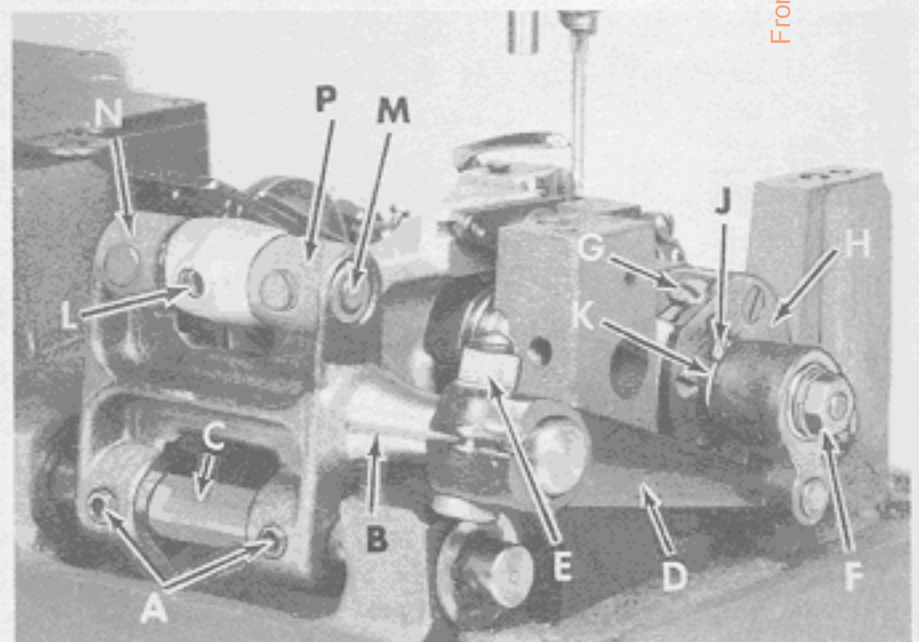

Fig. 13
Should it be necessary to move the feed dog to the left or right, loosen screws (A, Fig. 13) which hold the feed rocker (B) onto the feed rocker shaft (C), and move feed rocker to desired position and retighten screws. Make sure the feed rocker arm (D) does not bind after making this adjustment.
Should it be necessary to move the feed dog forward or backward, loosen nut (E, Fig. 13) which clamps the feed rocker arm to the feed rocker and move the feed rocker forward or backward as needed and retighten nut.
Set the stitch to required length. This is accomplished by loosening the locknut (F, Fig. 13) 1/2 turn (it has a left hand thread) on the end of the stitch regulating stud and turning the stitch adjusting screw (G) located under the left end of the cloth plate, in the head of the main shaft (H), which is marked with "L" and "S". Turning the screw clockwise shortens the stitch (moves stitch regulating stud toward the "S") and turning it in a counterclockwise direction lengthens the stitch (moves stitch regulating stud toward the "L"). Retighten the locknut securely. To prevent destructive damage to the feed drive bearing, the Key screw (J) must engage the "U" shaped key slot in the ferrule (K).
The feed rocker assembly may require lubrication or repair after years of operation. This can be accomplished as follows: Loosen nuts (E, F, Fig. 13) and remove nut (F). Remove feed rocker arm (D) from machine by rocking slightly. Loosen screws (A) and remove stop collar on right end of shaft (C). The shaft can now be withdrawn. Loosen Allen screw (L) and remove shaft (M). Now, repack bearings.
When packing bearings the parts must be clean and grease should be applied directly from the tube to avoid contamination. Tube of grease can be supplied under the part number 28604 P. Greased bearings are located at (N, P, Fig. 13). If grease sealed bearings are replaced they should be pressed in flush with the casting. To assemble, reverse the procedure described in the previous paragraph. Start tapered end of shafts first, twisting slightly when entering the grease seals to prevent damage. Check for proper adjustment of feed dog as described under "Setting the Feed Dog". Also check to see that there is no binding at any point.